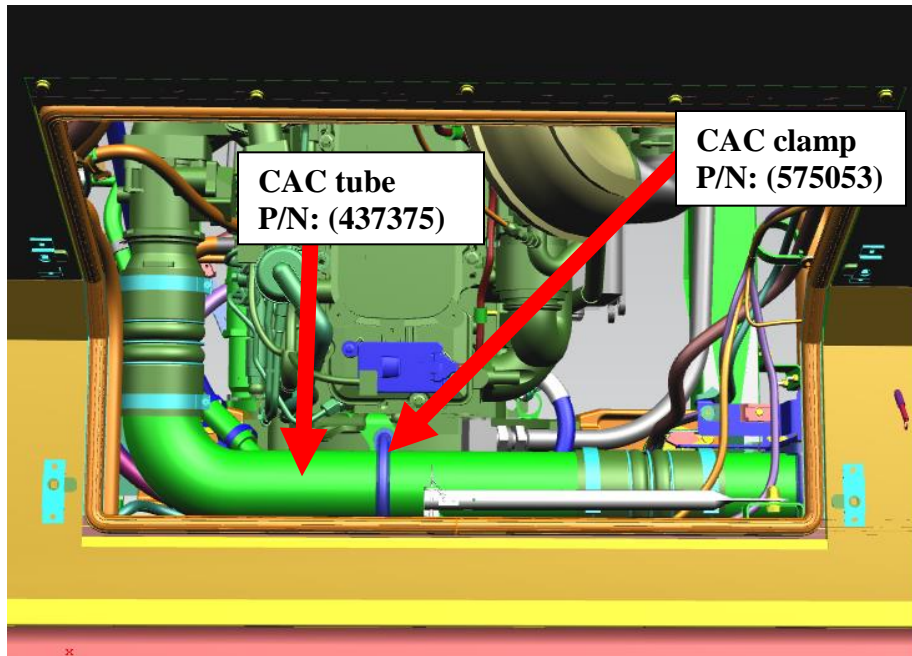

Figure 3: Birds eye view of rear interior access entry point
3. Locate CAC tube bracket seen in figure 3.